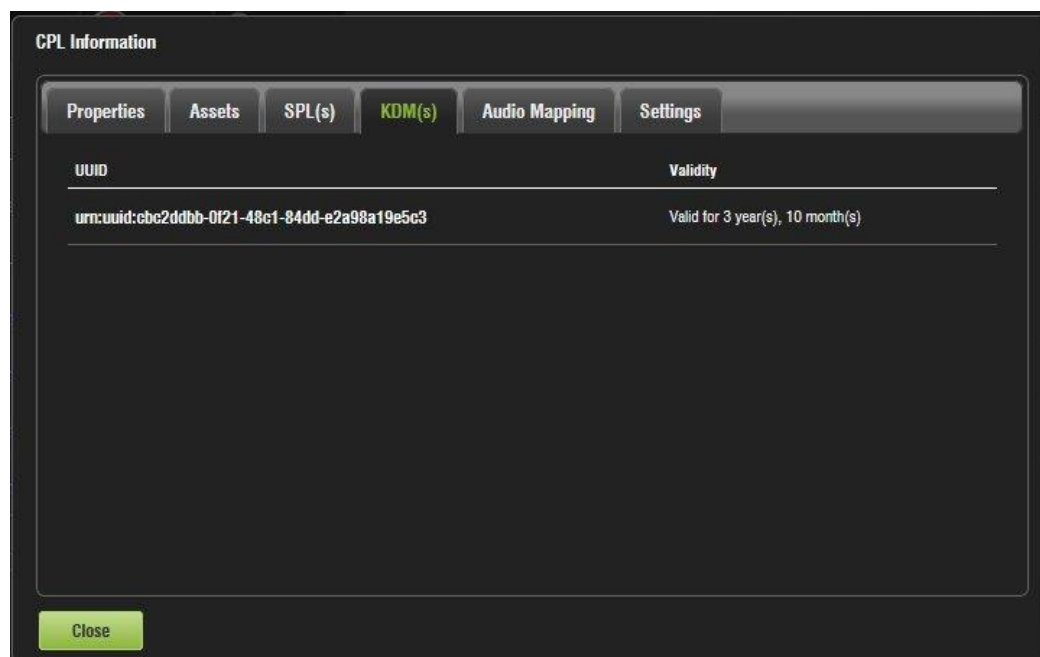

Figure 292: KDM(s) Tab
- This tab will display the UUID and validity of each KDM for the concerned CPL (Figure 292).